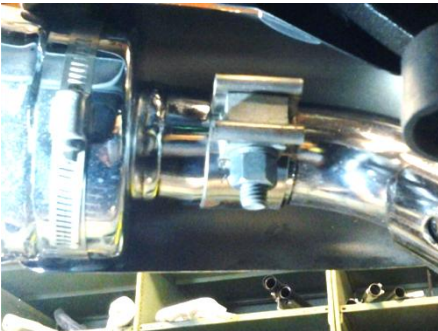

Figure 1.1
2. Loosen and remove hose clamp holding stock shield against muffler using a flat screw driver. There is one clamp in front of every muffler, make sure to remember the route its route as you will need to install a new one in the same way the stock clamp was in place. **(see figure 1.1)**